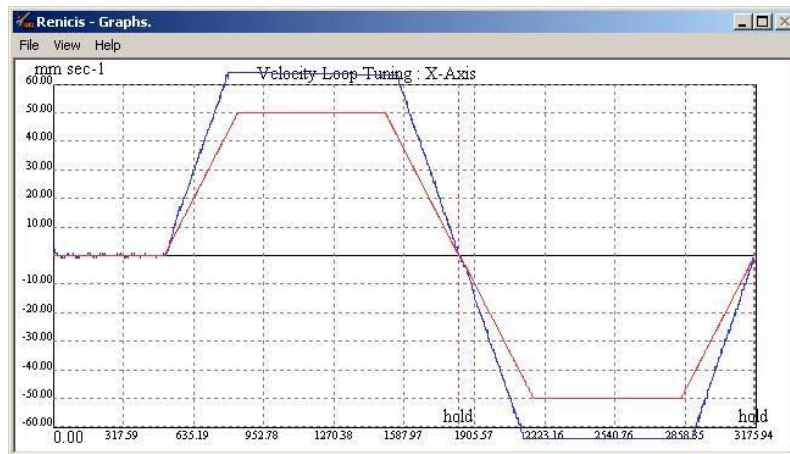

Figure 15
5. The initial adjustment is to set the encoder velocity feedback gain, this can be done using the up / down arrows or by entering the value and clicking on update, to adjust the values until the amplitude of the plots are matched. Figure 15 shows a graph plot where the encoder velocity feedback gain is set too low.